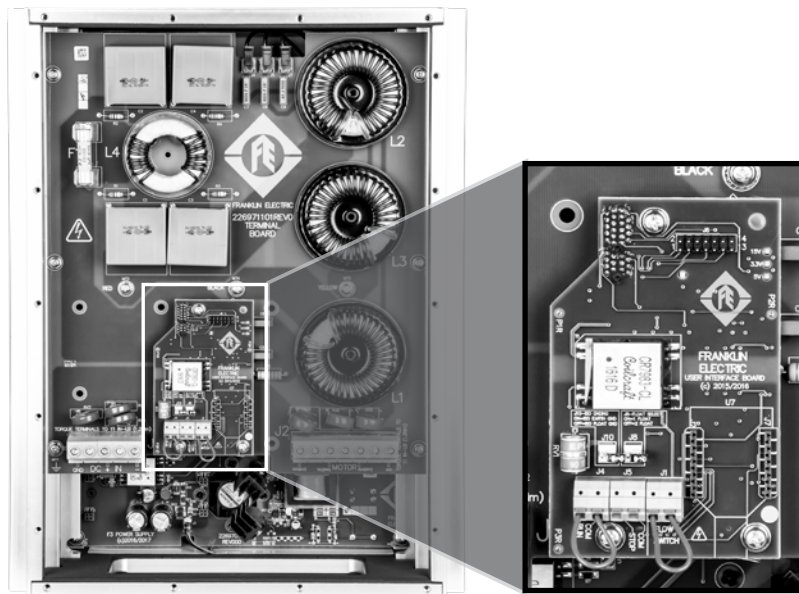

Figure 5: Flow Switch Wiring Connection
2. Connect the cables from the flow switch terminals NO and COM to the Photon™ Drive terminal block labeled “FLOW SWITCH” (Figure 5).